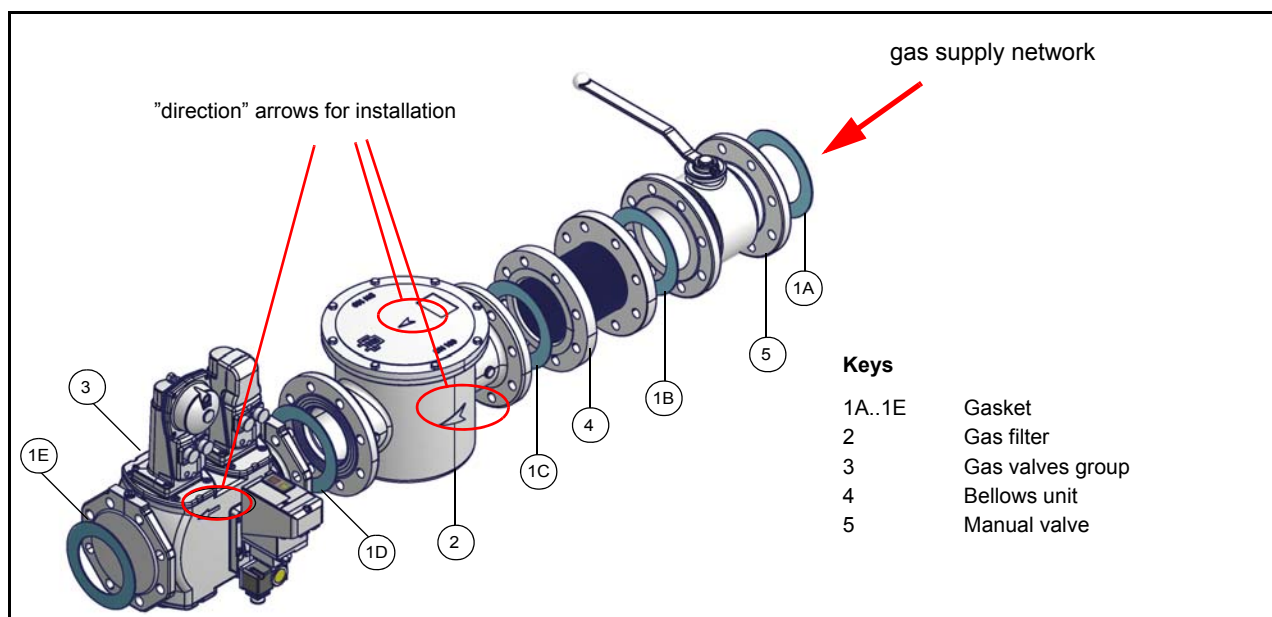

Fig. 5 - Example of gas train
- 1-b) in case of flanged joints: place a gasket (no. 1A..1E - Fig. 5) between the elements
**ATTENTION:** once the gas train is mounted according to the diagram on Fig. 5, the gas proving test must be performed, according to the procedure set by the laws in force.